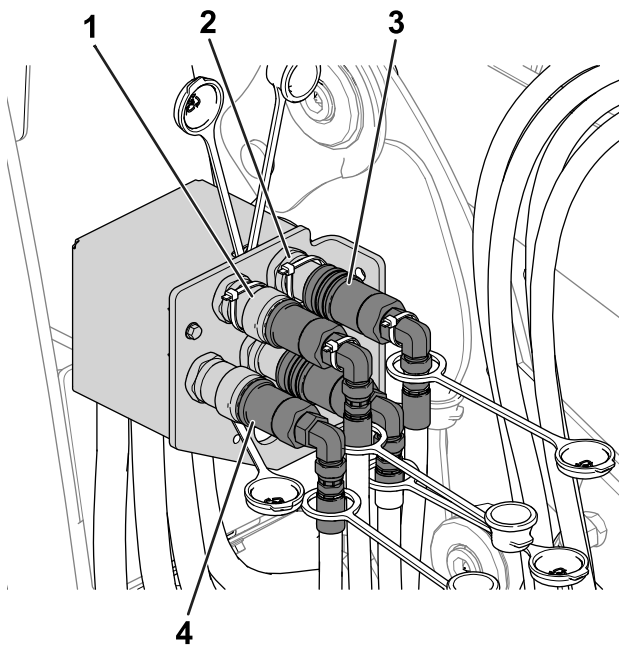

Figure 50
7. Perform the following steps to disconnect the hydraulic couplers (Figure 50):